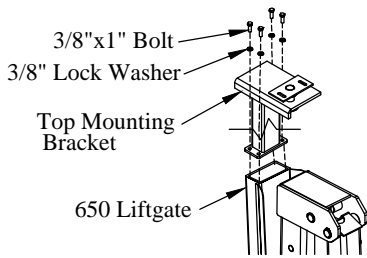

Figure 6: Top mounting bracket.
- 4. Attach** the top mounting bracket with the 3/8" x 1" bolts and lock washers (Figure 6).